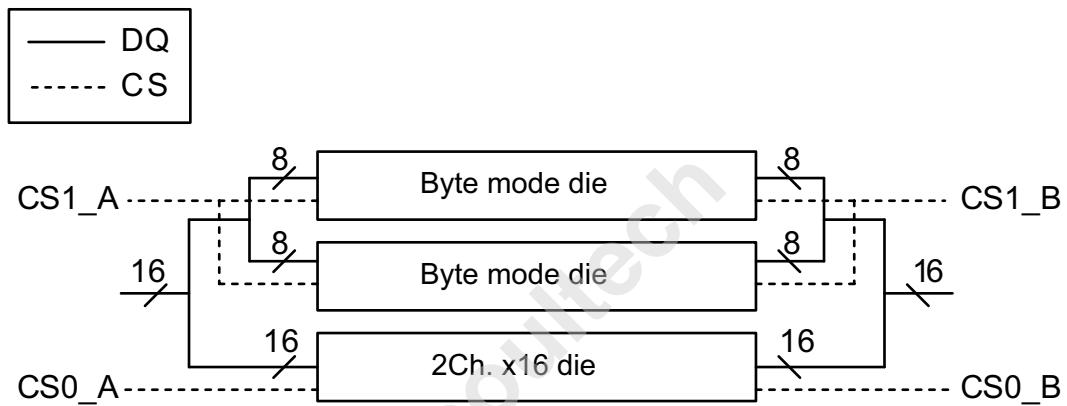

Figure 4 — Mixed Package Configuration Example
3. Mixed - Packages configured with both Standard and Byte-Mode LPDDR4 die. In this mixed configuration, some ranks contain only Standard die and other ranks contain only Byte-Mode die (See package configuration example in Figure 4).